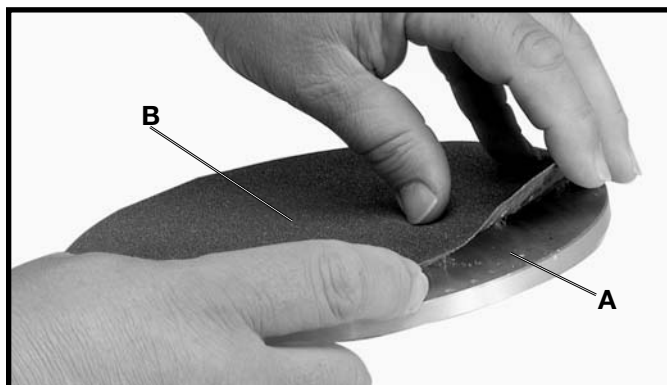

Fig. 8
1. Make sure the disc plate (A) Fig. 8, is clean.
2. Peel backing from sanding disc and press the sanding disc (B) firmly onto the disc plate (A), as shown in Fig. 8.